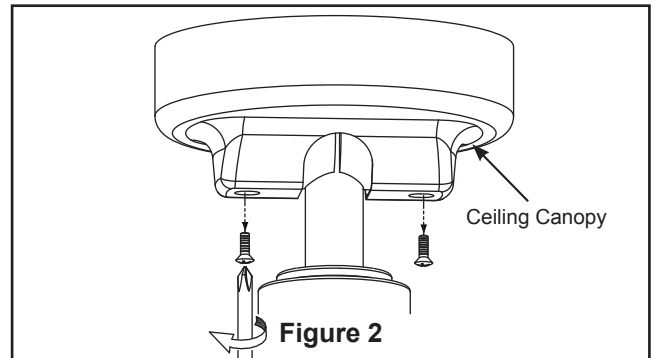

Figure 2
1. Remove the two screws from the canopy and retain the screws for “Installing the Canopy Housing” Step 1. (Figure 2)